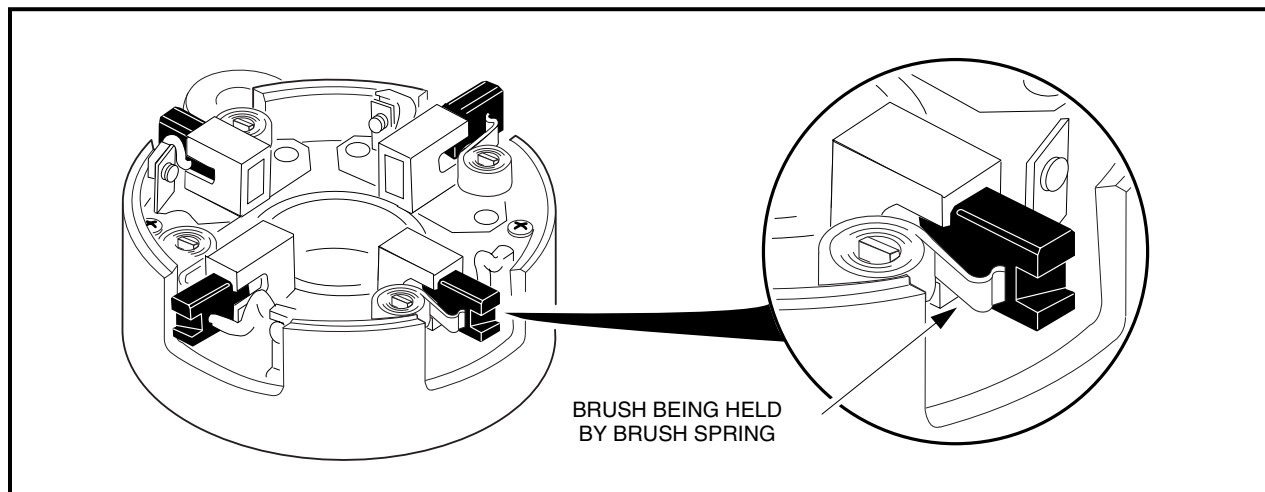

Figure 12-7 Pull Brushes Away from Center of the Commutator End Cover
**NOTE:** Brushes must be removed to avoid damage from commutator removal. Lift the brush springs out of the notches in the brushes and pull the brushes back from the center of the commutator end cover. The springs will help prevent them from sliding back towards the center (Figure 12-7, Page 12-4).
2. Install the commutator. Lift the brush springs out of the notches in the brushes and pull the brushes back from the center of the commutator end cover to avoid interference. The springs will rest on the sides of the brushes and help prevent them from sliding to the center (**Figure 12-7, Page 12-4**).
**NOTE:** Brushes must be removed to avoid damage from commutator removal. Lift the brush springs out of the notches in the brushes and pull the brushes back from the center of the commutator end cover. The springs will help prevent them from sliding back towards the center (**Figure 12-7, Page 12-4**).
8. Install the commutator. Lift the brush springs out of the notches in the brushes and pull the brushes back from the center of the commutator end cover to avoid interference. The springs will rest on the sides of the brushes and help prevent them from sliding to the center of the cover (**Figure 12-7, Page 12-4**).